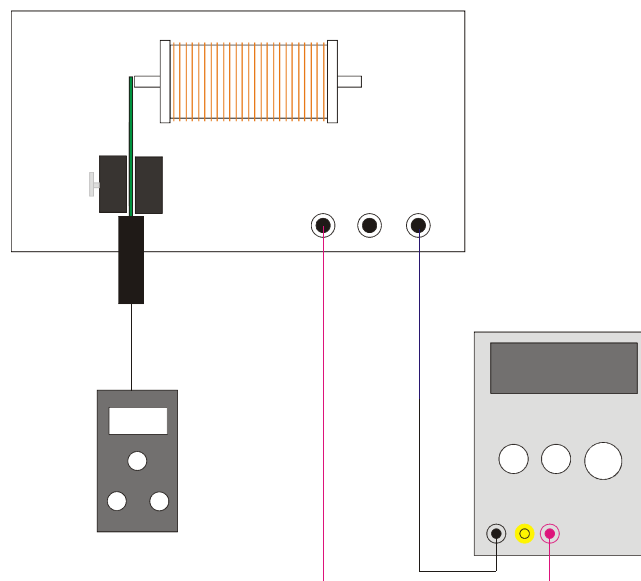

Fig. 2: Experiment set-up "static measurement"
- Connect up the power supply, coil and teslameter as shown in Fig. 2.